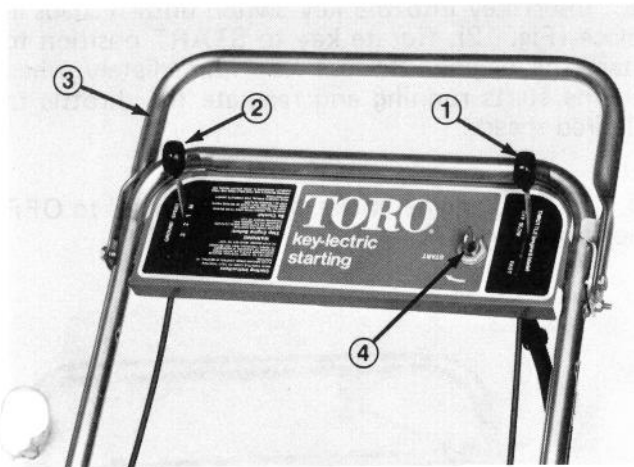

Figure 7
Throttle Control — The throttle control is used to stop the engine and control blade speed. Moving the throttle forward increases engine speed and moving it backwards decreases engine speed (Fig. 7).
Ground Speed Control (Fig. 7) — The ground speed control has four positions: NEUTRAL (N), LOW (1), MEDIUM (2) and HIGH (3). Positioning lever in different gear settings changes ground speeds of mower.
Traction Control Handle (Fig. 7) — The traction control handle engages and disengages the ground speed control unit. With engine running and
Key Switch (Key-Lectric) (Fig. 7) — The key switch is used to start the engine.